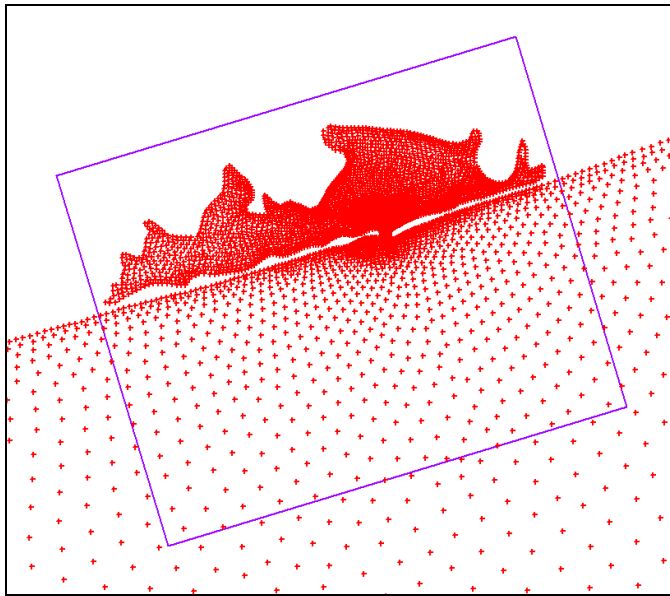

Figure 14-1. Zoomed in view of the scatter data set.
1. Switch to the *Scatter* module . Zoom  in on the dense part as shown in Figure 14-1. Zoom by dragging a box around a region or single clicking. Hold the *Shift* key while clicking to zoom out.
2. Select the *Select Scatterpoints*  tool and choose *Edit | Select With Poly*. This allows you to click on the screen and draw out a polygon. Any points inside the polygon will be selected. Select the points around the box shown in Figure 14-1 with about a 30% margin. Double-click on the screen to close the polygon and select the points.
6. Push *OK* when you are done positioning the frame to appear as Figure 14-1.